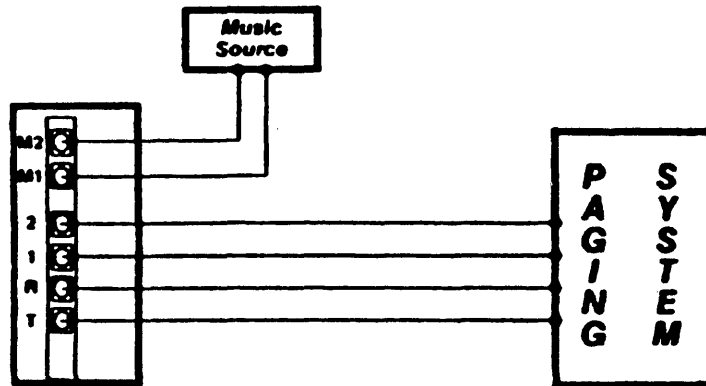

Figure 8
1. Instead of wrapping both wires from the switched contact closure connections on the paging system, wrap the loose end of one of these wires to terminal 2 on the cartridge (Figure 8).